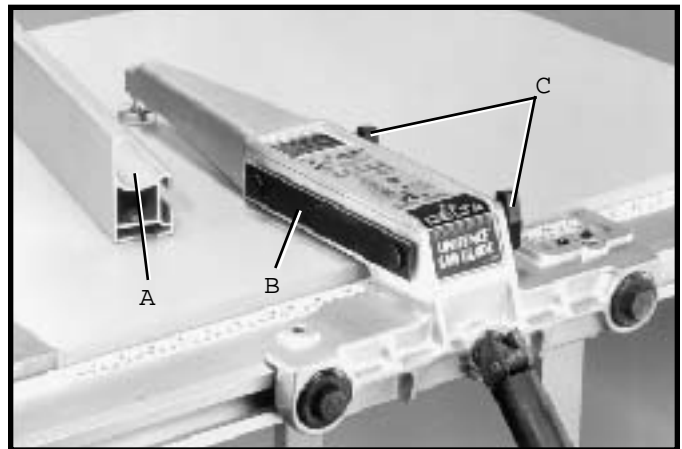
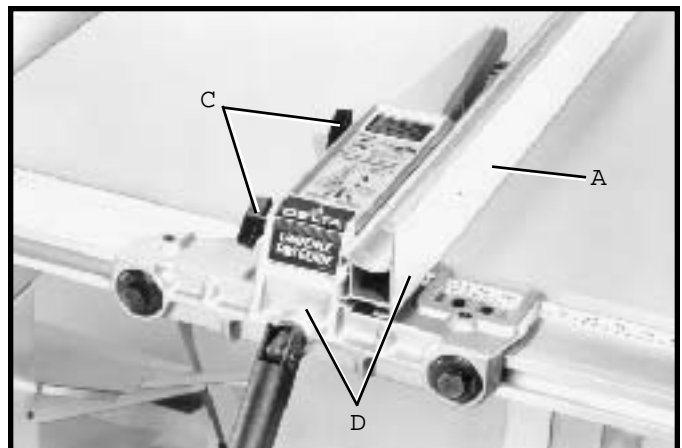

Fig. 111
Fig. 112
In some cases it may be desirable to use the fence on the left side of the saw blade. This is easily accomplished by repositioning the fence (A) Figs. 111 and 112, fence clamp bar (B), and lock knobs (C) so that the fence (A) will be attached to the right side of the fence body, as shown in Fig. 112. The complete fence assembly (D) Fig. 112, can easily be moved to the left side of the saw table.